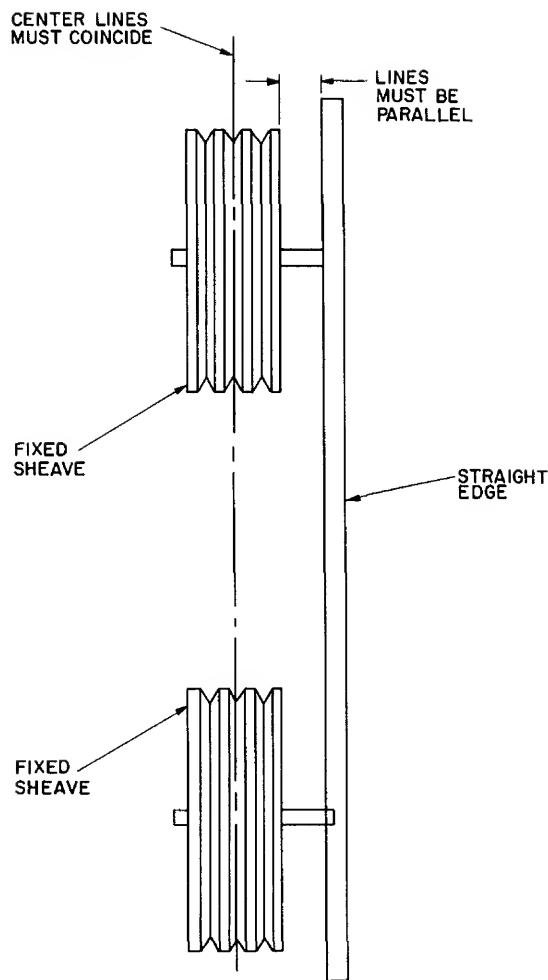

Fig. 27 — Pulley Adjustment
1. Turn off unit power. See Fig. 27.